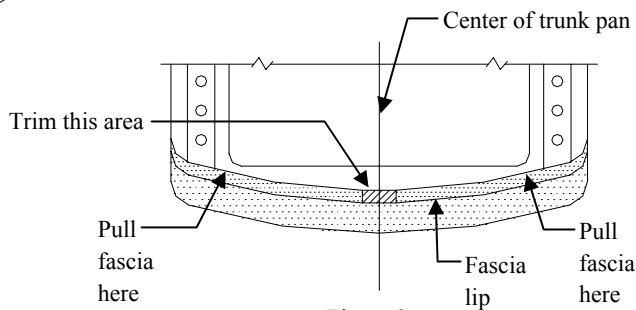

Figure 2.
①	Qty. (4)	Hex Bolt M12 X 1.75 X 30	⑥	Qty. (2)	Hex Nut 7/16-14
②	Qty. (4)	Lock Washer 1/2	⑦	Qty. (1)	Hex Bolt 3/8-16 X 3.00
③	Qty. (2)	Carriage Bolt 7/16-14 X 1.25	⑧	Qty. (1)	Hex Nut 3/8-16
④	Qty. (2)	Block	⑨	Qty. (1)	Flange Lock Nut 3/8-16
⑤	Qty. (2)	Lock Washer 7/16
- Trim notch in fascia lip approximately 3-1/4" wide. Obtain vehicle owners approval before cutting. See Figure 2. Note: Trunk pan is centered on vehicle and may be used as a guide.
- Driver side:** Remove rubber muffler hanger from bracket. Remove two (2) M12 bolts and muffler hanger bracket. Note: Bracket must be detached from heat shield. Cut heat shield tab or drill out rivet. Leave tab as long as possible to sandwich between frame and side bracket.
- Passenger side:** Remove two (2) M12 bolts and tie down bracket.